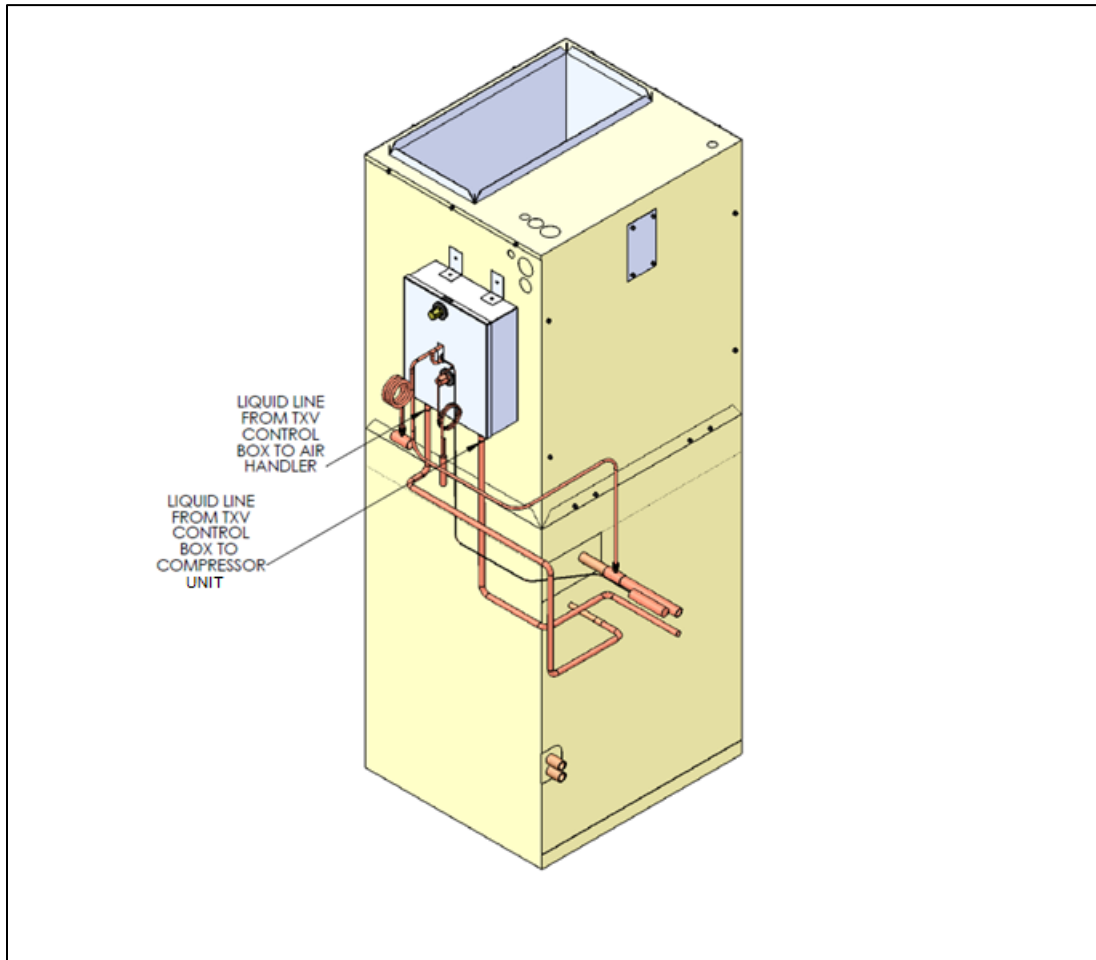

Figure 13. TXV Liquid Line Connections
Step 5: Measure and cut copper tubing to connect the liquid line from the TXV control box to the liquid line stub out of the air handler as shown in Figure 13. Run the other liquid line from the connection on the TXV control box to the compressor unit, also shown in Figure 13. Nitrogen braze the joints.